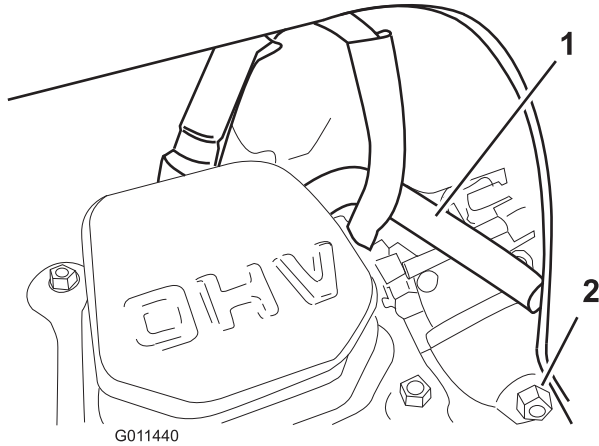

Figure 36
Note: Ensure that the breather tube is routed above the spark plug wire as shown in Figure 36.
6. Drain the fuel in the carburetor through the carburetor-drain bolt (Figure 36) into an approved gasoline container.